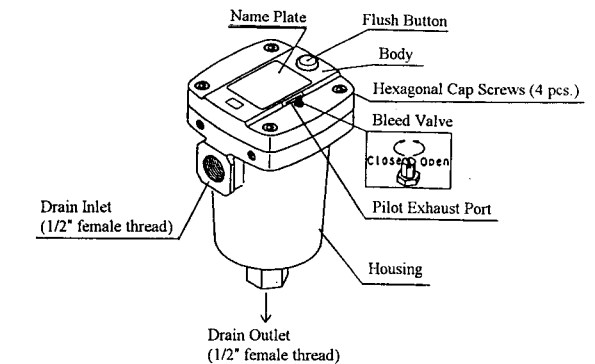

Figure 1 : Parts Description
* How to Depressurized, refer to Figure 1